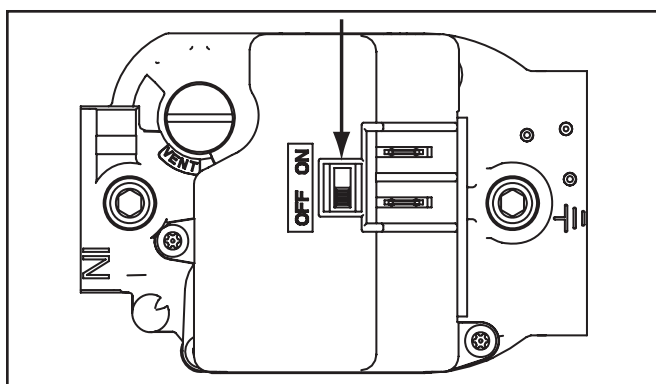

Figure 1. Gas Valve
Should you ever need to shut down your furnace for service or maintenance, shut off the gas at the gas valve first by moving the switch to the OFF Position (Figure 1). If your installation has a manual gas shutoff valve on the gas supply pipe, shut this off, then shut off the electric to the furnace.
5. Move the switch on the gas valve to the OFF position. See Figure 1 on page 4 for valve switch location.